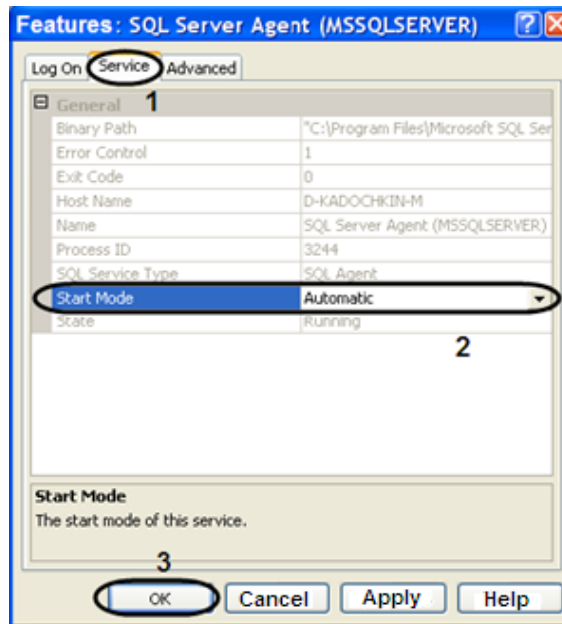

Fig. 9.3-2 Features "Sql Server Agent"
- 5.3. Features: Sql Server Agent (MSSQLSERVER) » window will open in result (Fig. 9.3-2).
- 5.4. Go to the tab«Service» (Fig. 9.3-2, 1).
- 5.6. Click Ok to save the changes (Fig. 9.3-2, 3).